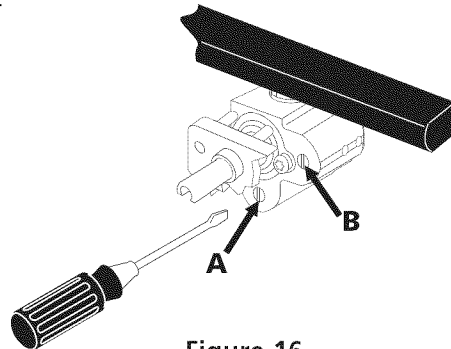

Figure 16
### 5. Adjust the "LOW" Setting of the Dual (Bridge) Surface Burner Valve (Figure 16):
- The rear portion of the bridge burner flame size can be increased or decreased by turning screw **A** (see Figure 16). Use screw **B** to adjust the flame size of the center portion of the bridge burner. Turn counterclockwise the screw to increase flame size. Turn clockwise the screw to decrease flame size. Adjust flame until you can quickly turn knob from LITE to LOWEST POSITION without extinguishing the flame. Flame should be as small as possible without going out.